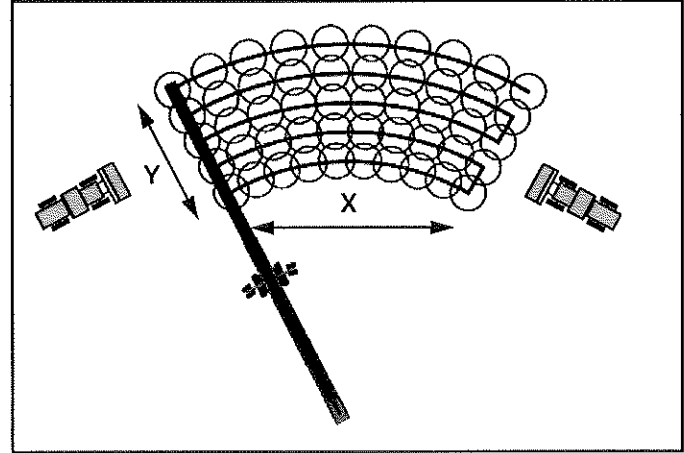

Figure 82
Once the parameters have been entered into the PLC and the conveyor is set to auto mode the conveyor program will build the pile in a series of conical piles similar to the configuration shown (**Figure 82**) until the pile reaches the maximum height requirement.
- When the X dimension is greater than the Y dimension. The conveyor would be used more efficiently when covering material over a large area (**Figure 82**).
- When the loader needs to reclaim the material from each side of the pile for a better blend of material (**Figure 82**).